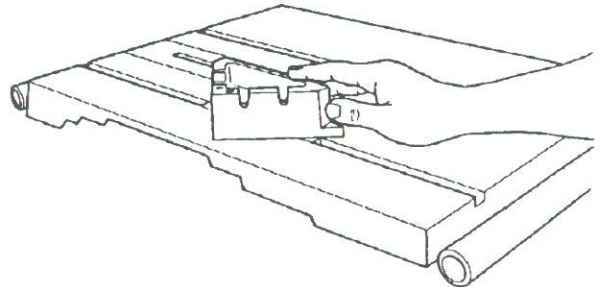

Fig.3
3. Place the guide bar (4) in the left slot with the casting pointing toward the left, shown in Fig.3.